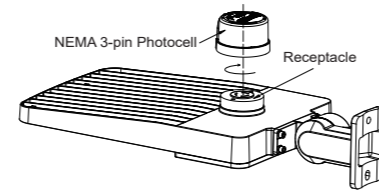

Figure 20 (300W)
2. For 300W models: When installing the NEMA 3-pin photocell (sold separately), mount the receptacle first, then install the photocell. See Figure 20